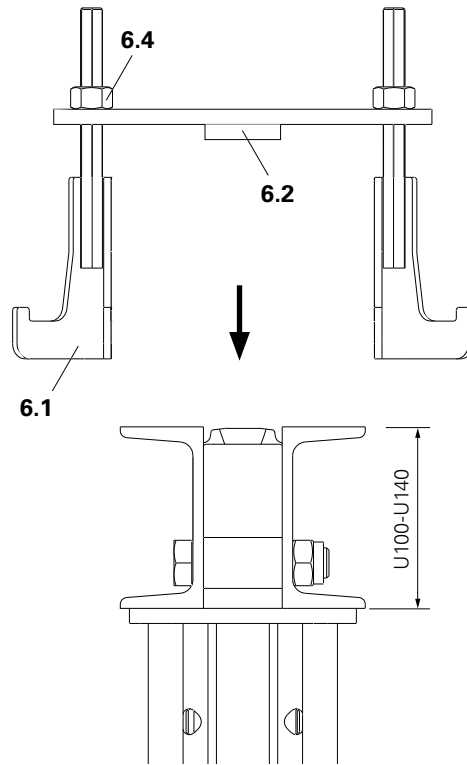

Fig. A6.01a
3. Guide the strap over the steel waler from the top. (Fig. A6.01a)